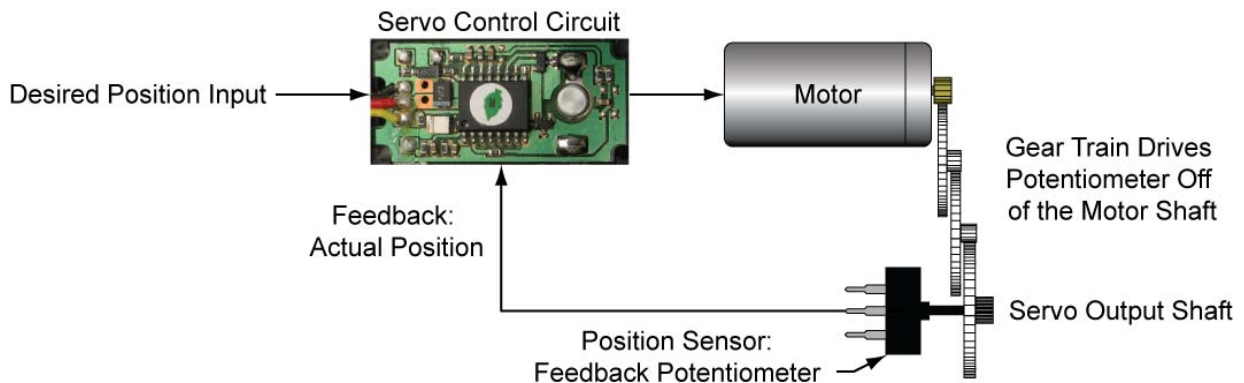

Figure 2: Feedback Circuitry in a Servo
- The potentiometer allows the control circuitry to monitor the current angle of the servo motor (Figure 2). The motor, through a series of gears, turns the output shaft and the potentiometer simultaneously. The potentiometer position is fed back into the servo control circuit and when the control circuit detects that the position is correct, it stops the motor. If the control circuit detects that the angle is not correct, it will turn the motor the correct direction until the angle is corrected.